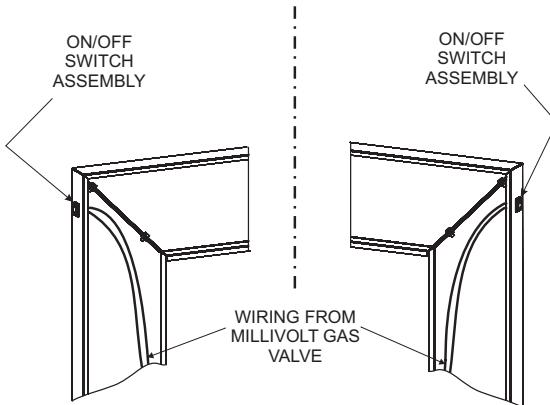

Figure 17
- Run the low voltage alternate switch wires up the back of the right or left surround panel. Then secure the wires with wire clips provided. **See Figure 17.**